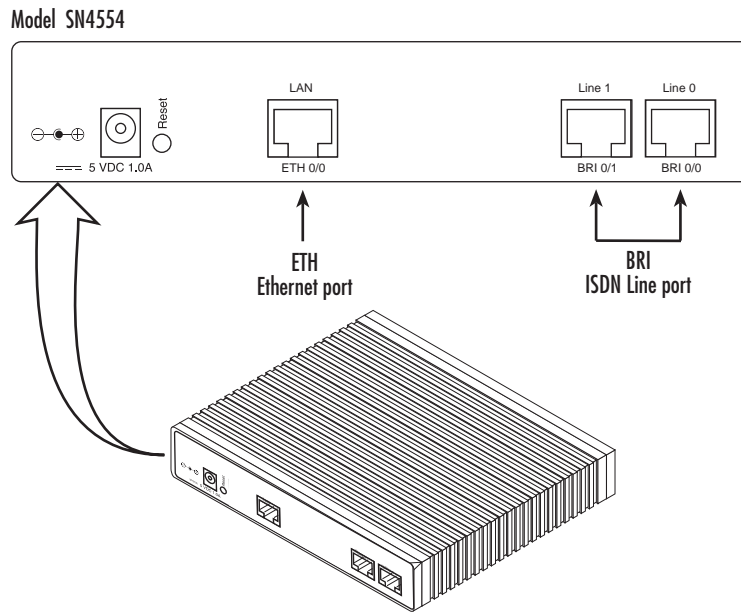
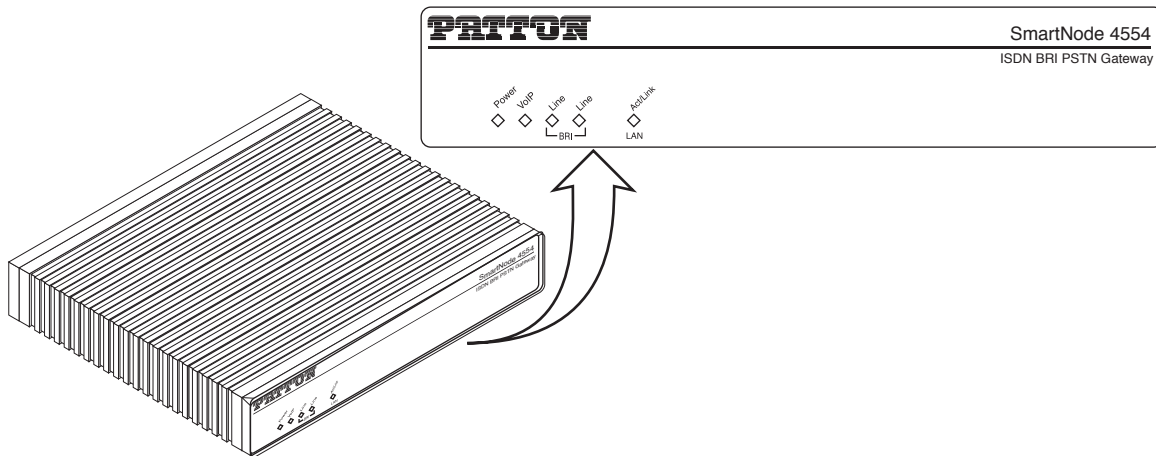

Figure 2. SN4554 rear panel
Figure 3. SN4554 front panel
The SN4554 is an ISDN BRI PSTN Gateway for home or home-office use that supports two VoIP calls via a single ISDN BRI port (see figure 2). The SN4554 rear panel ports are described in table 2.
ETH (LAN)	Switched Auto-MDX Fast-Ethernet port, RJ-45 (see figure 2), connect the unit to an Internet Telephony Service Provider (ITSP) [via an xDSL or cable modem] or a remote IP-PBX [via a private corporate network].
BRI (Line)	ISDN BRI/S0 port. RJ-45 connector presents the NET (User) side of the S/T interface (see figure 2) for connecting the SN4554 to a PBX NT port or an ISDN BRI NT.
5V DC, 1.0A	The SN4554 has a 5V DC 1A power input (see figure 2).
Reset	<p>The reset button (see figure 2) has three functions:</p> <ul style="list-style-type: none"> Restart the unit with the current startup configuration—Press (for less than 1 second) and release the Reset button to restart the unit with the current startup configuration. Restart the unit with factory default configuration—Press the Reset button for 5 seconds until the Power LED (see figure 3 on page 16) starts blinking to restart the unit with factory default configuration. Restart the unit in bootloader mode (to be used only by trained SN4554 technicians)—Starting with the unit powered off, press and hold the Reset button as you apply power to the unit. Release the Reset button when the Power LED starts blinking so the unit will enter bootloader mode.
Figure 3 shows SN4554 LEDs, the LED definitions are listed in table 3.
The SN4554 comes with two ISDN BRI (TE) ports located on the rear panel (see figure 2 on page 15) for connecting to the NT of an ISDN PBX or ISDN NT. Install the connection as follows:
1. Using an ISDN cable (see Appendix C, “Cabling” on page 45) connect the BRI (TE) port on the SN4554 to the NT PBX or ISDN NT.
1. Insert the barrel-type connector end of the AC power supply into the *5V DC, 1.0A* port (see figure 2 on page 15).